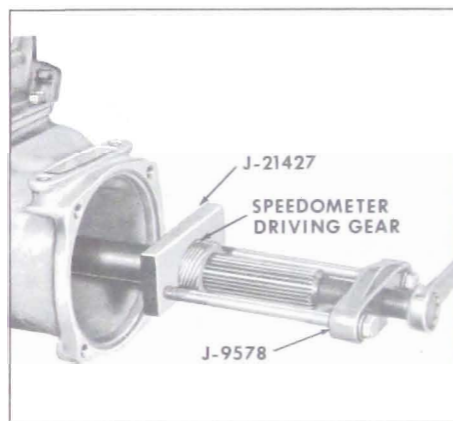

Figure 5-142
1. Place transmission in Park range, then remove speedometer driving gear with J-9578. See Figure 5-142.